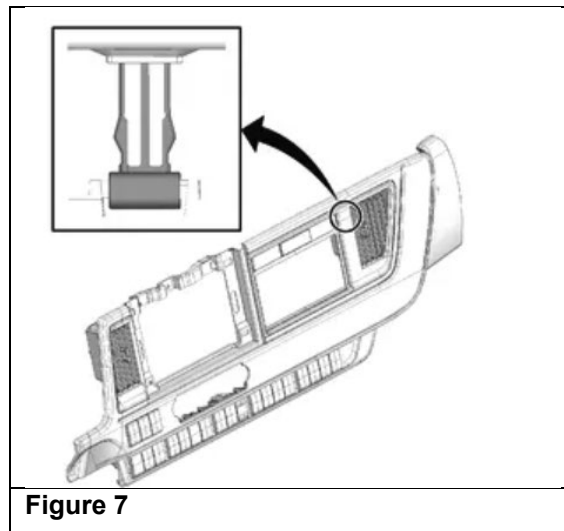

**Figure 5**
8. Remove the screw from the center cluster. (See Figure 5.)